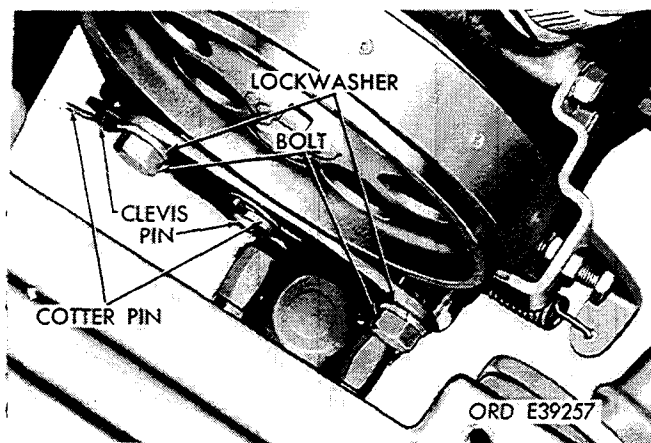

Figure 2-365. Anchor support assembly—disconnect points.
- (4) Remove anchor support assembly (fig. 2-365).